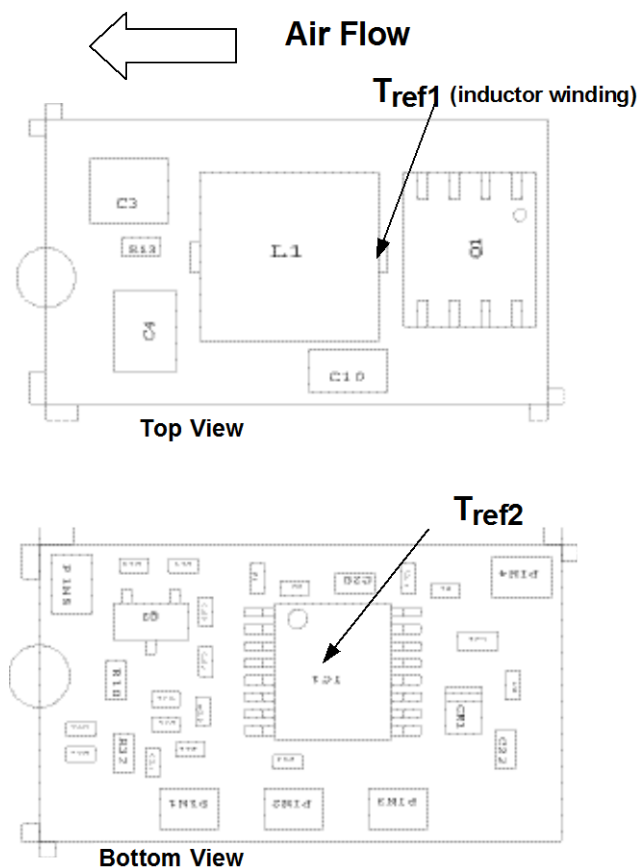
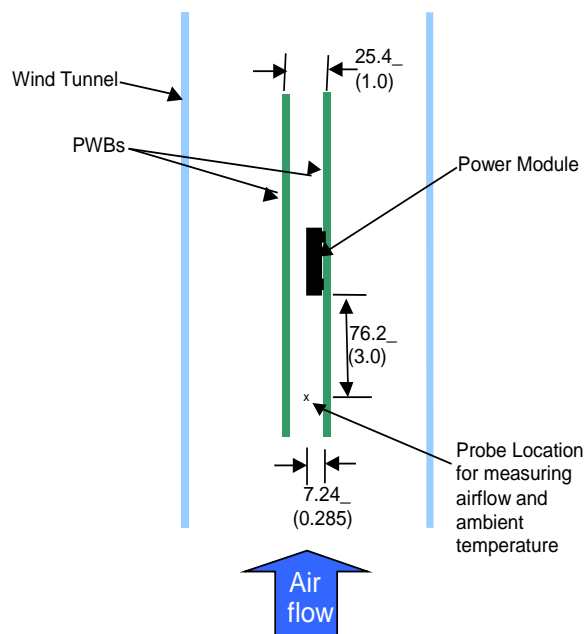

Figure 32. Tref Temperature measurement location.
Figure 33. Thermal Test Set-up.
Considerations include ambient temperature, airflow, module power dissipation, and the need for increased reliability. A reduction in the operating temperature of the module will result in an increase in reliability. The thermal data presented here is based on physical measurements taken in a wind tunnel. The test set-up is shown in Figure 33. Note that the airflow is parallel to the long axis of the module as shown in figure 32. The derating data applies to airflow in either direction of the module's long axis.
The thermal reference point, T_{ref1} used in the specifications of thermal derating curves is shown in Figure 32. For reliable operation this temperature should not exceed 125°C.